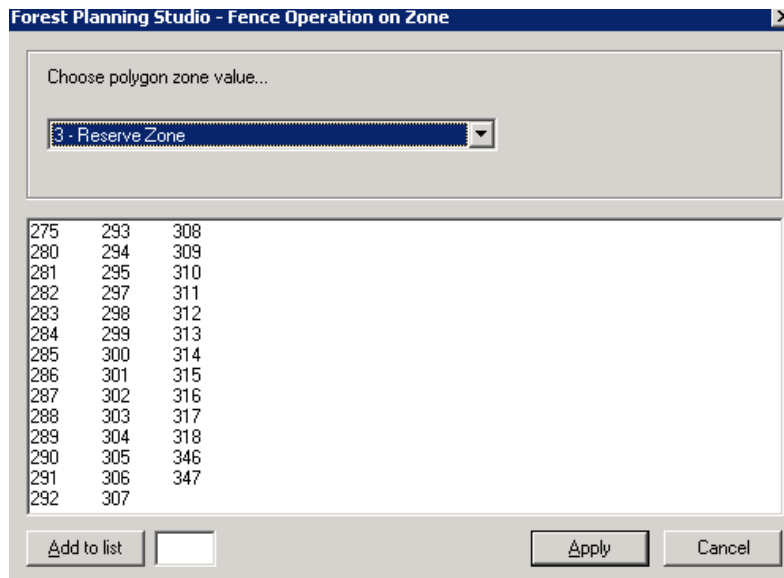

Figure 28: Dialogue box of the polygons selected during the fence operation.
3.3.5 With the cursor located anywhere in the *Viewer*, right click and select *Fence operation*. A dialogue box listing all of the selected polygons should appear (Figure 28).